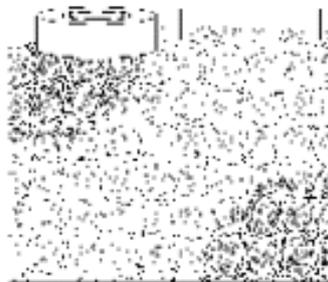

Figure 5. Make a Top Hinge
1. Position the graphic, using strips of Scotch™ Masking Tape to hold the graphic to the substrate. Then, apply a strip of masking tape 5.1 to 7.5 cm (2 to 3 inch) wide, horizontally across the top of the graphic. See Figure 5.